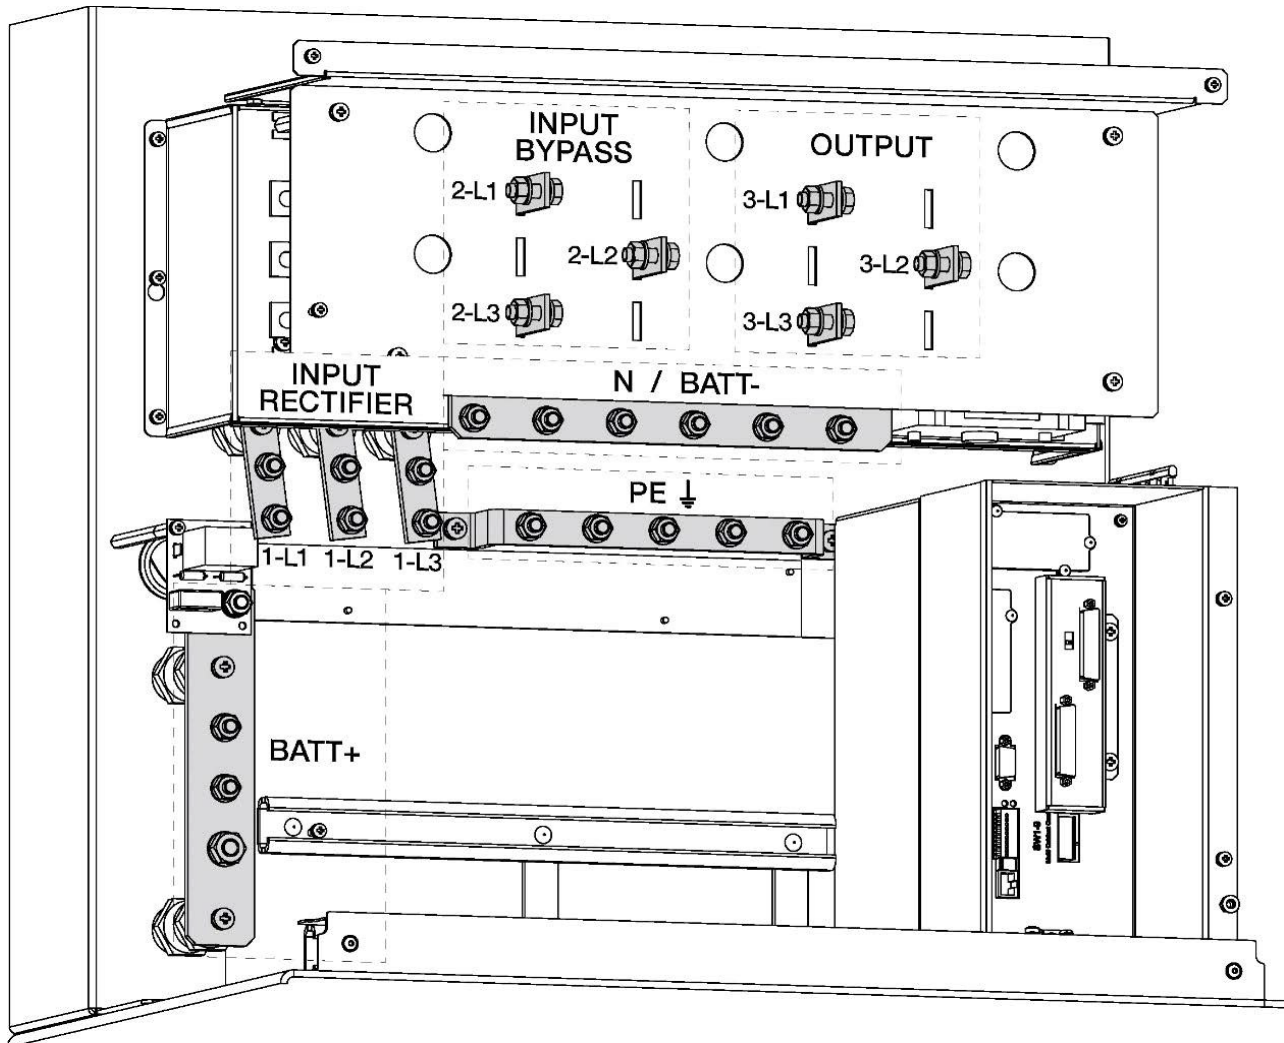

Figure 4.4 UPS Power terminal connections
All the UPS power cables enter the UPS through the bottom of the cabinet and then bolted to terminal busbars, as illustrated in Figure 4.4. The bypass/output power terminal identifications are etched on a transparent safety panel that is fitted over the front of the connections.
9. If the bypass mains supply is obtained from a different mains distribution board to the input mains supply, connect an earth cable from the bypass mains distribution board to the protective earth (PE) busbar – see Figure 4.4.
1. Connect the earth cable from the load distribution board to the UPS protective earth (PE) busbar – see Figure 4.4.